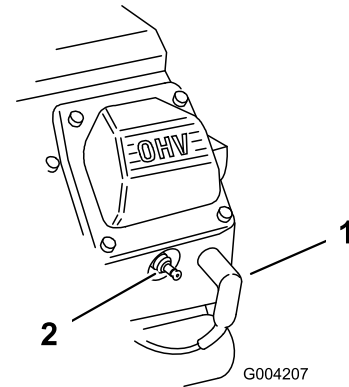

Figure 33
3. Pull the wires off of the spark plugs (Figure 33).
3. Push the wires onto the spark plugs (Figure 33).